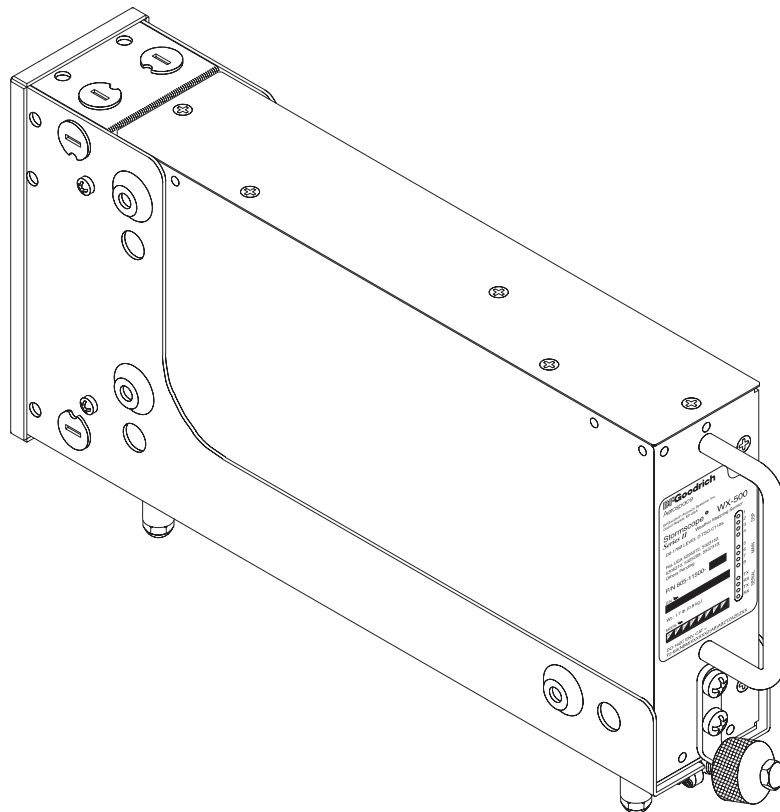

Figure 2-13. Processor Installation
1. Simply align the processor with the guide pins at the rear of the mounting tray and slide it into place. Seat the processor with the mating connectors. See figure 2-13.